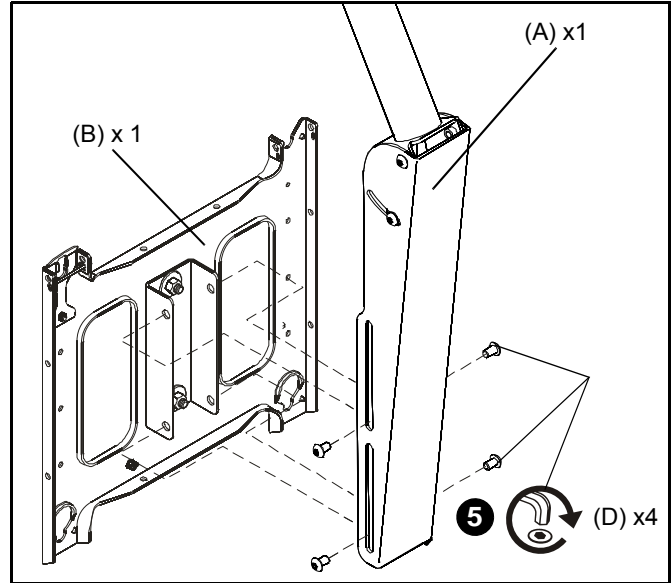

Figure 4
5. Secure faceplate (B) to faceplate mounting bracket using 3/16" hex wrench (C) and four 5/16-18 x 1/2" button head cap screws (D). (See Figure 4)
2. Lower display into place listening for audible "click" to ensure recessed area of mounting buttons are properly seated in lower area of mounting holes and "click lock" mechanism has engaged. (See Figures 4 and 5)